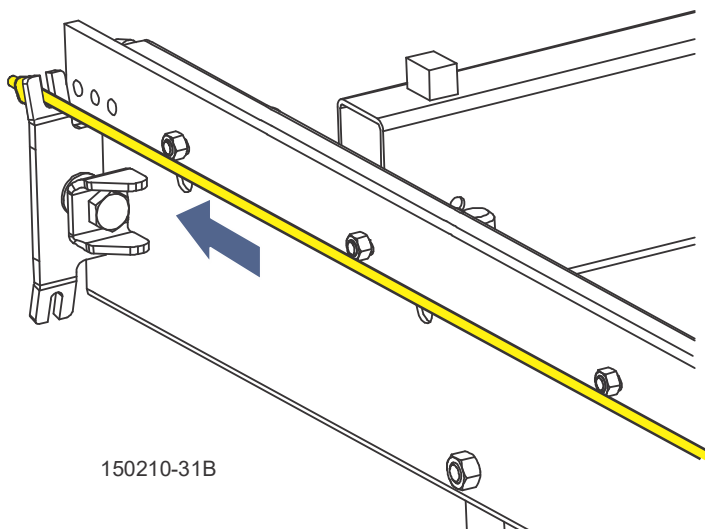

**FIG. 3-12**
8. Loop the feed rope around the crank spool twice. See FIG. 3-12.